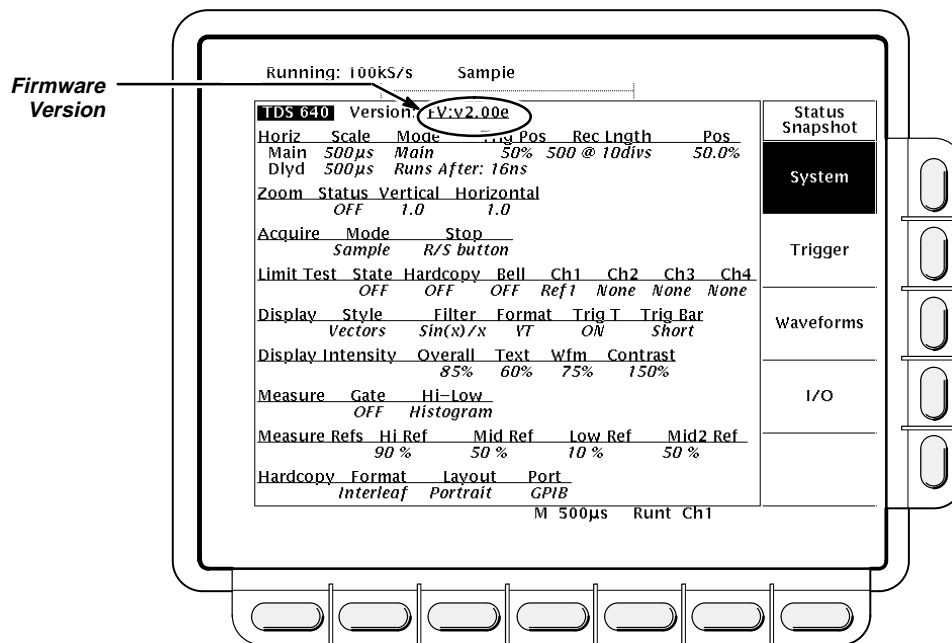

Figure 3-54: Status Menu—System
- **System** displays information about the Horizontal, Zoom, Acquisition, Display, Measure, and Hardcopy systems (Figure 3-54). This display also tells you the firmware version.